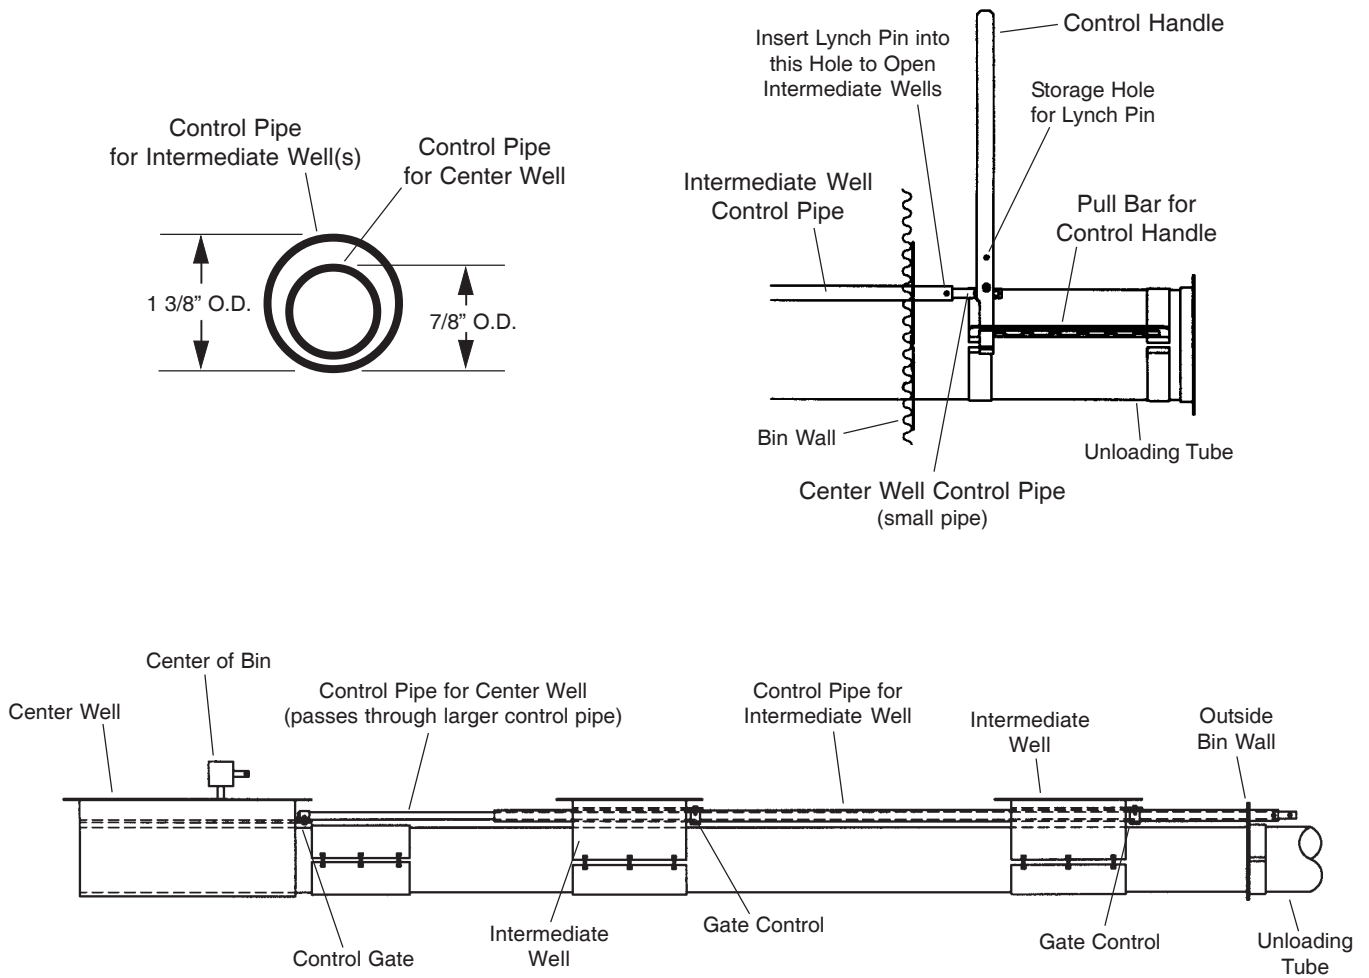

FIG. 5
1. Close the center well and the intermediate well gates. Push the control pipes to close (See Figure 5 on page 9).
2. Open the center well gate which is connected to the small pipe on the top center of the auger tube (the "center well control pipe"). See Figure 5. Open gradually until the desired flow is established. It should not be necessary to open the gate more than 3 to 6 inches. Always close the center well gate and allow the unloader to clean out before stopping the unloader. When restarting, open the center well gate to the previous position immediately after starting the unloader.
- When the natural gravity-flow of grain to the center well stops, close the center well gate and insert lynch pin through the intermediate well(s) control pipe (see Fig. 5 on previous page.)